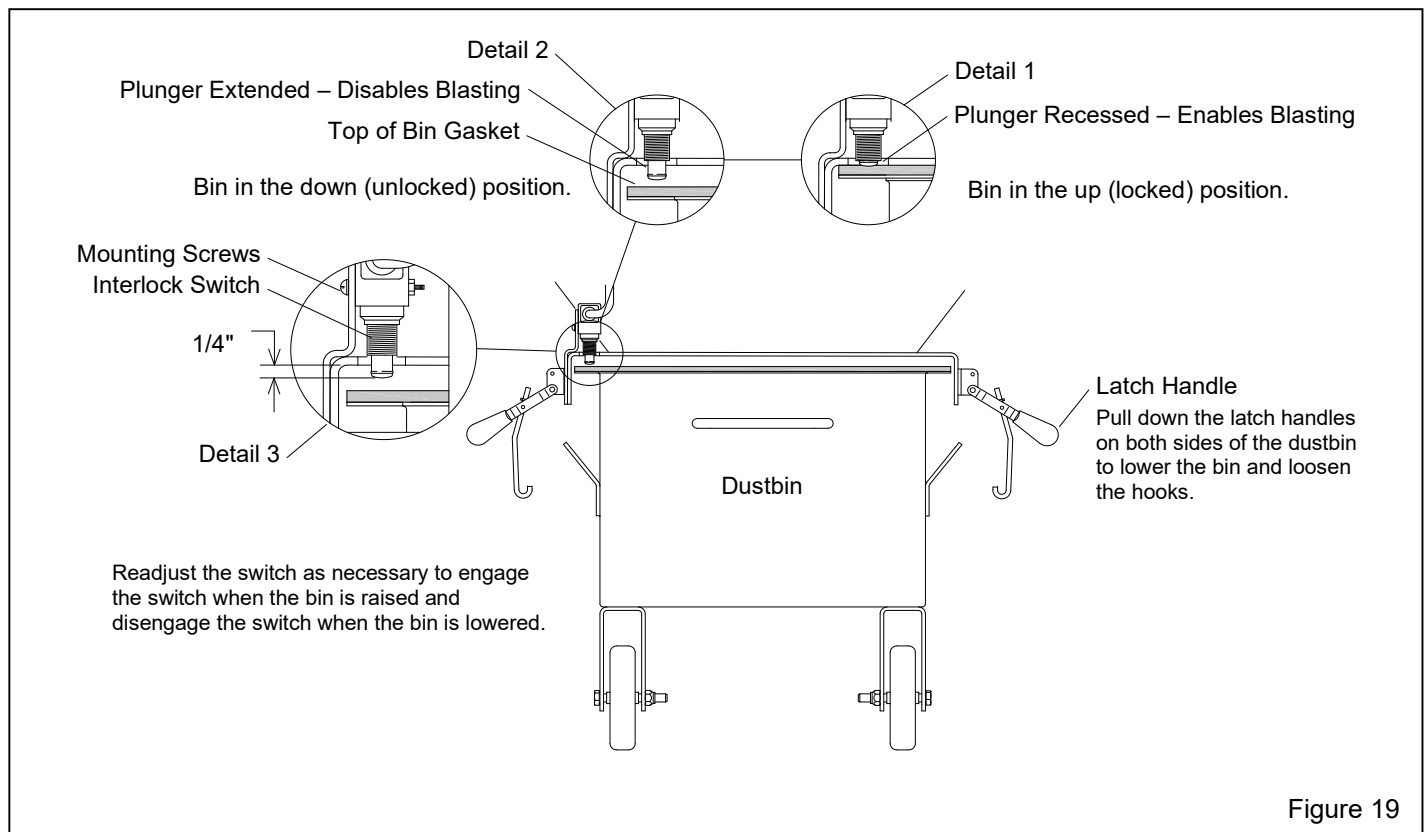

Figure 19
5.6 Dustbin Interlock – Figure 19
Figure 19. The interlock is set at the factory and does not normally require field adjustment unless parts are replaced. When adjustment is required, proceed as follows:
5.6.3 To disable blasting and permit removal of the dustbin, the top of the bin must clear the switch, as shown in the Detail 2 Circle in Figure 19.
5.6.4.2 Loosen the switch's mounting nuts. Move the switch up or down as necessary to obtain approximately 1/4" between the bottom of the hopper flange and bottom of the switch's plunger, as shown in the Detail 3 Circle in Figure 19.